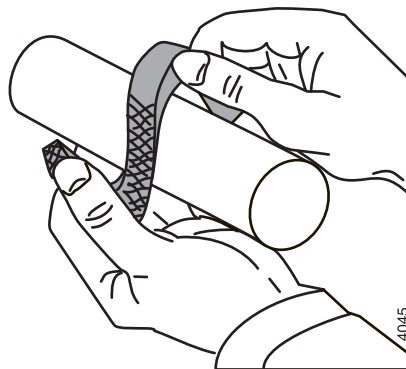

Figure 7: Axially bending open packing rings.
- 2 Bend the packing rings axially open, see figure 7 and fit these around the pump shaft. Ensure that the cuts are always at 90° with regard to each other.
- 4 Bend open the first packing ring as shown in figure 7 and fit it around the shaft. Thoroughly press the ring home using a suitable piece of halved tube.